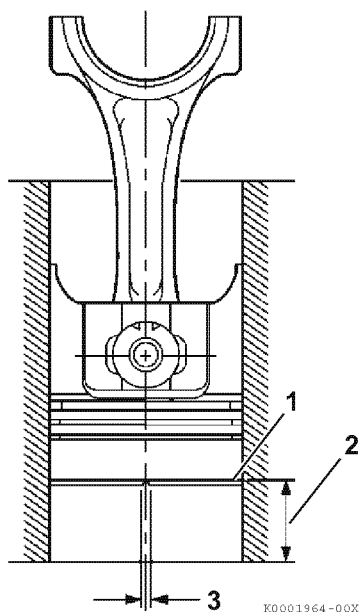

Figure 6-65
10. To measure piston ring end gap, insert each compression piston ring (**Figure 6-65, (1)**), one at a time, into the cylinder. Use a piston with the piston rings removed to slide the ring into the cylinder bore until it is approximately 1.18 in. (30 mm) (**Figure 6-65, (2)**) from the bottom of the bore. Remove the piston. Measure the end gap (**Figure 6-65, (3)**) of each piston ring. Record the measurements. See *Piston Ring on page 6-8 for specifications*.